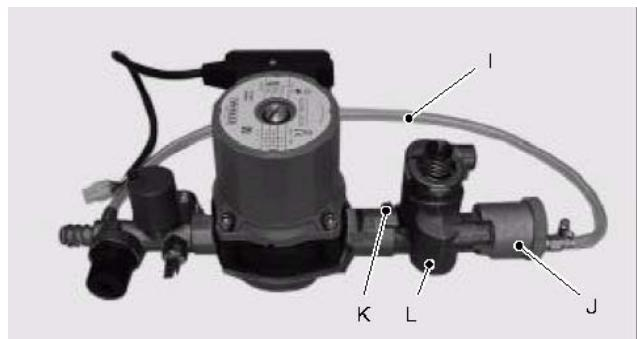

Fig. 27
- 8 Disconnect the pipe I and remove the automatic air vent J (Fig. 27).